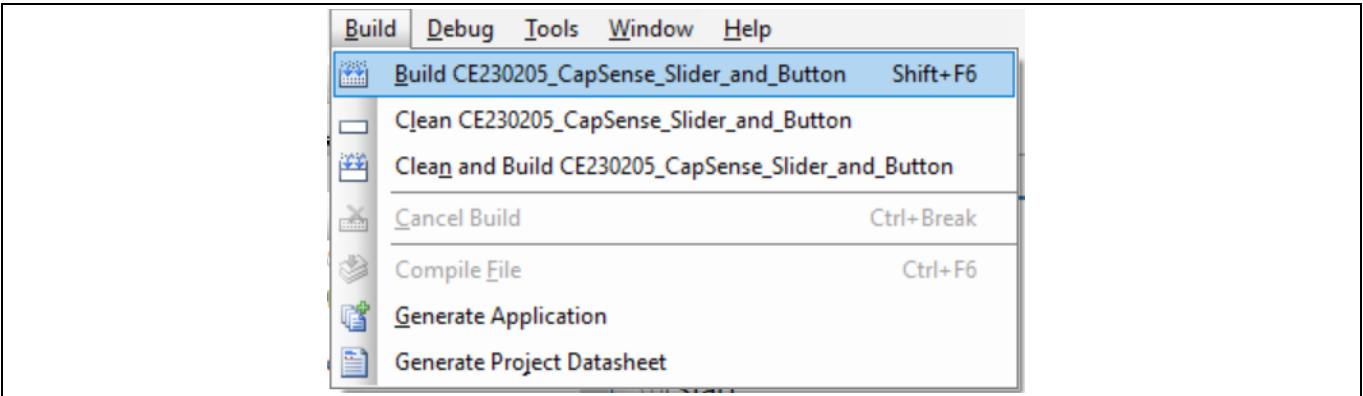

Figure 14 Build Code Example from PSoC Creator
- 4. Build the code example by choosing **Build > Build <Project Name>**, as shown in Figure 14. A .hex file is generated after a successful build process.